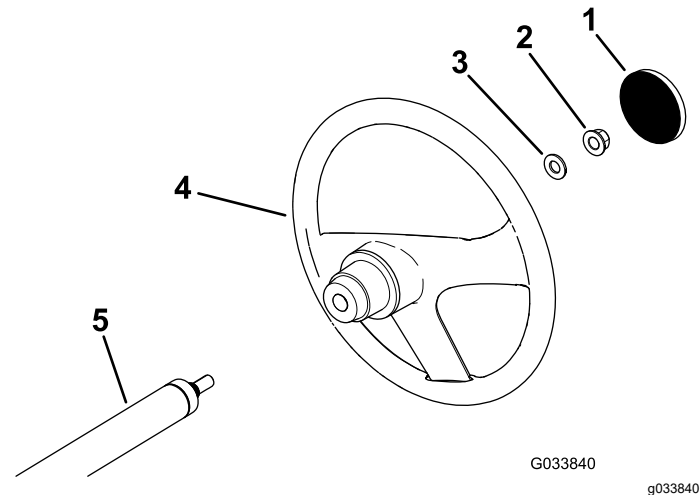

Figure 3
- If the cover is installed, remove it from the hub of the steering wheel (Figure 3).
- Remove the locknut (1/2 inch) from the steering shaft (Figure 3).
- Slide the steering wheel and washer (1/2 inch) onto the steering shaft (Figure 3).
- Install the cover on the steering wheel (Figure 3).